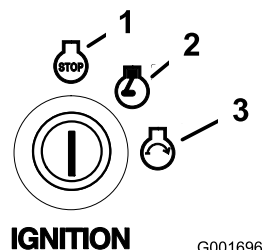

Figure 13
6. Turn the ignition key to the Start position (Figure 13). When the engines starts, release the key.
4. Turn the ignition key to the Off position and remove the key (Figure 13).